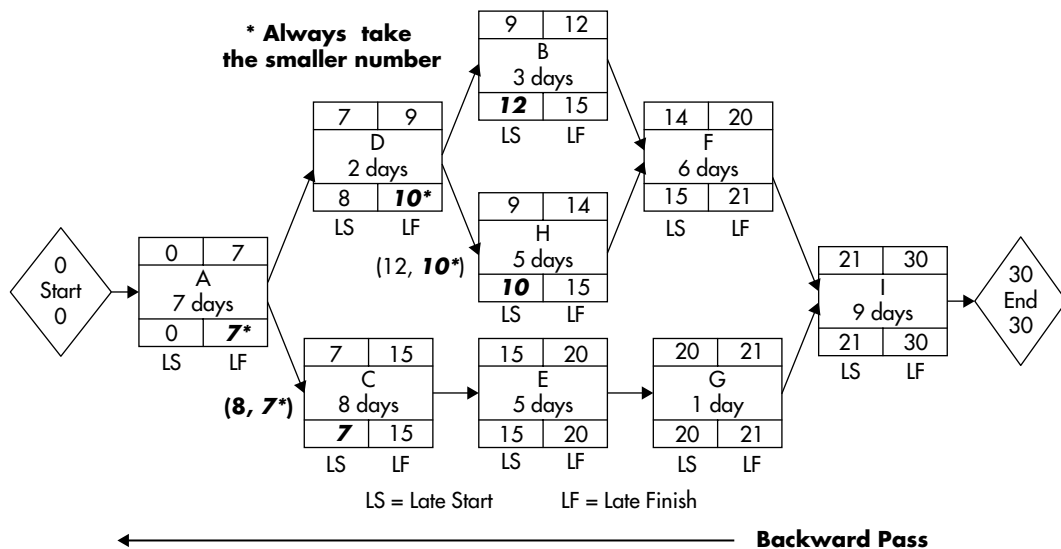

Figure 6-15 Sample backward pass
in the lower-left corner box and the late finish (LF) in the lower-right corner box of the sticky note for each activity (see Figure 6-15).
- **Late start (LS)** The latest date an activity may begin as logically constrained by the network
- **Late finish (LF)** The latest date an activity may finish as logically constrained by the network